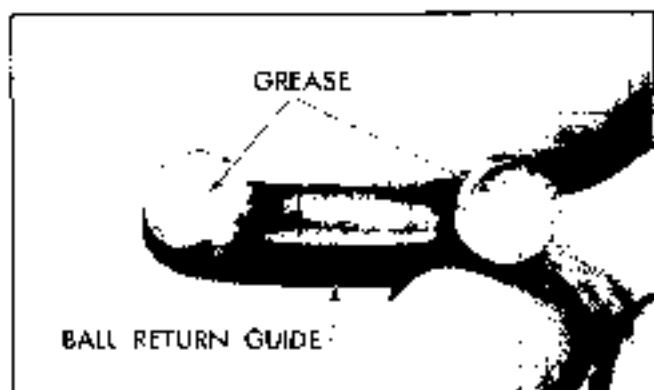

Fig. 9-65 Ball Return Guide
4. Fill one-half of ball return guide with remaining 7 balls. Place other guide over balls and plug each end with heavy grease to prevent balls from falling out when installing guides into rack-piston nut (Fig. 9-65).